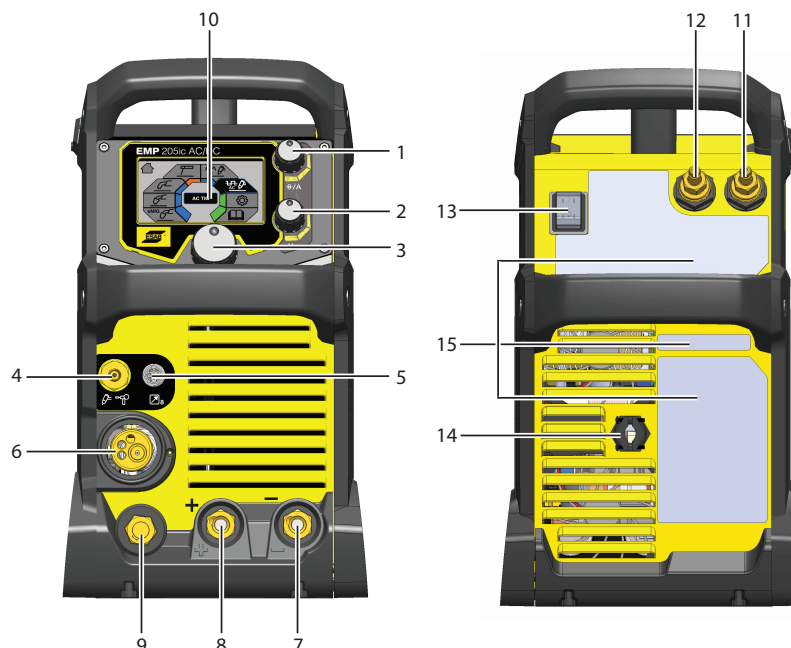

Figure 1. Front & rear views: Model EMP 205ic AC/DC
The power source has two outputs for connecting welding and return cables: a negative [-] terminal (7) and a positive [+] terminal (8) (see Figure 1).
For TIG process, connect the TIG torch power cable to the negative [-] terminal (7), see illustration. Connect the gas inlet nut on the TIG torch to the gas outlet connector (4) located on the front of the power source. Connect the gas inlet quick connect (12), on rear panel, to a regulated shielding gas supply. Connect the work return lead to the return-cable terminal positive output [+] (9). Connect the torch connector to the negative output [-] (7) (see Figure 1).